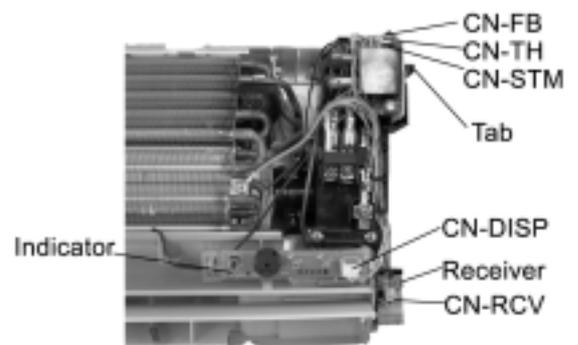

Fig 3
3. Release CN-FB , CN-TH, CN-STM connectors on the electronic controller and CN-DISP on the indicator, CN-RCV on the receiver. (see , **Fig 3**)